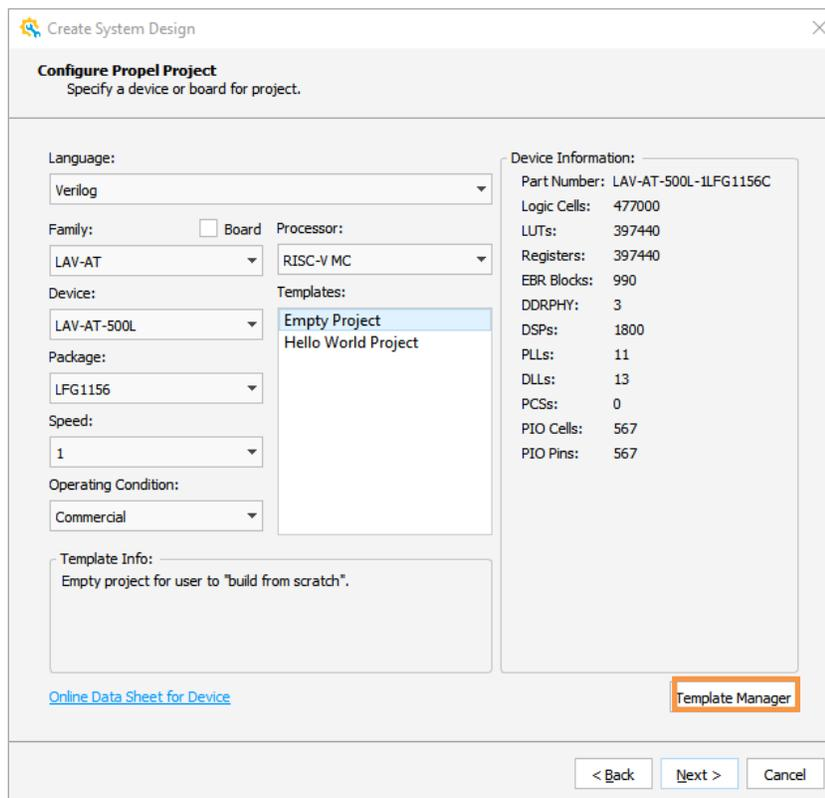
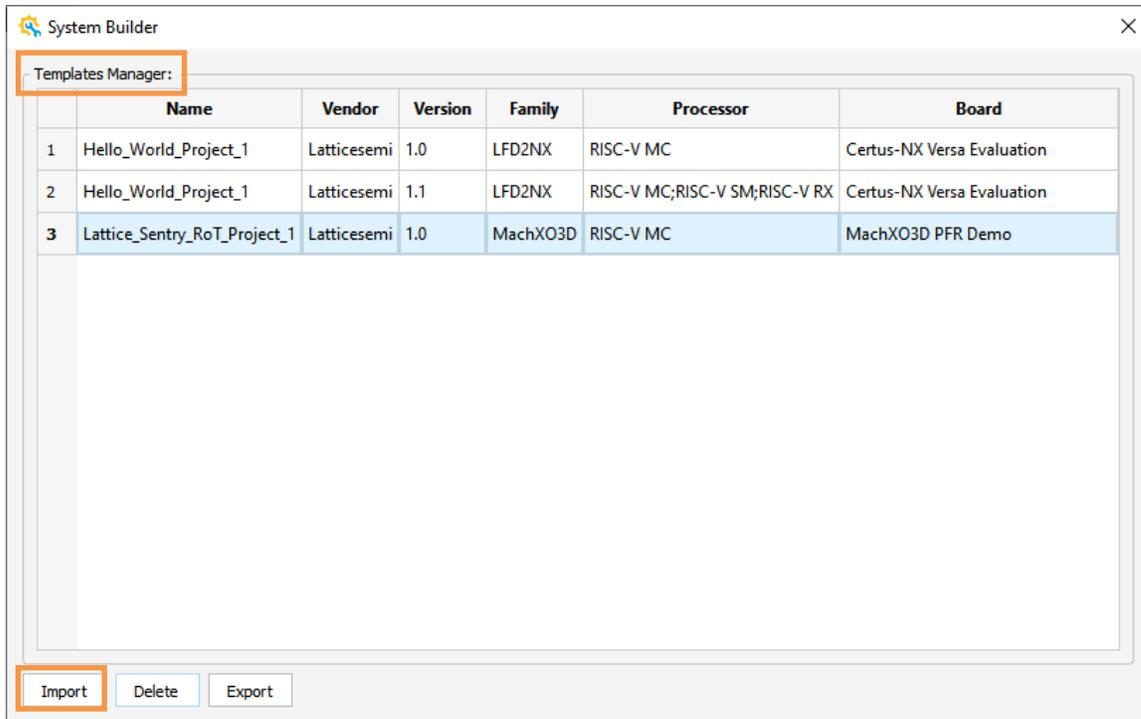
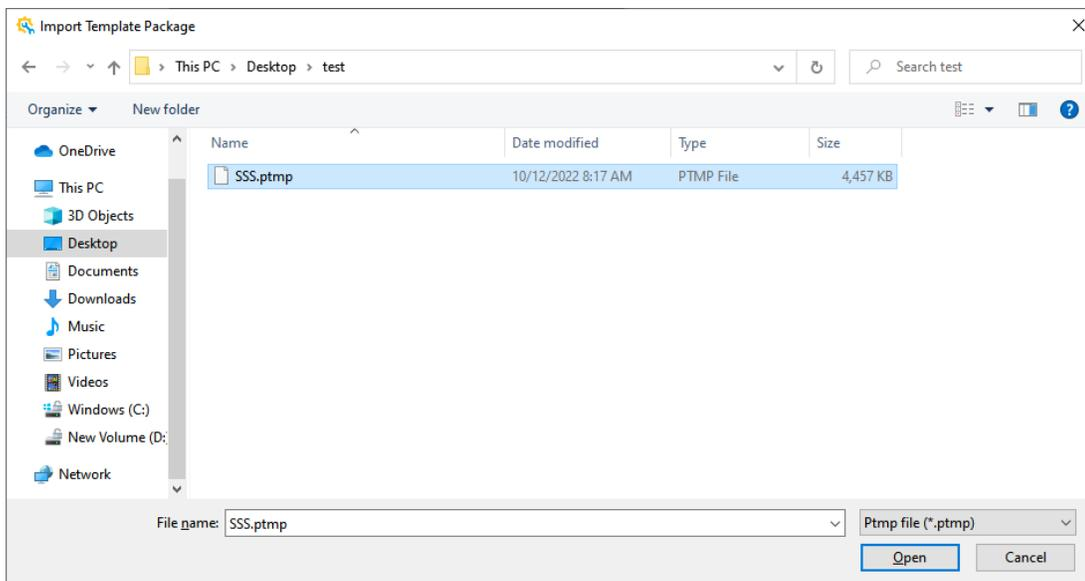

Figure 2.104. Template Manager Entry
Figure 2.105. Templates Manager Page
Figure 2.106. Import ptmp File
You can import/delete/export a selected template in **Template Manager** when creating a new system design (Figure 2.104 and Figure 2.105).
- To import a template, click **Import** (Figure 2.105), and then choose the desired .ptmp file (Figure 2.106).